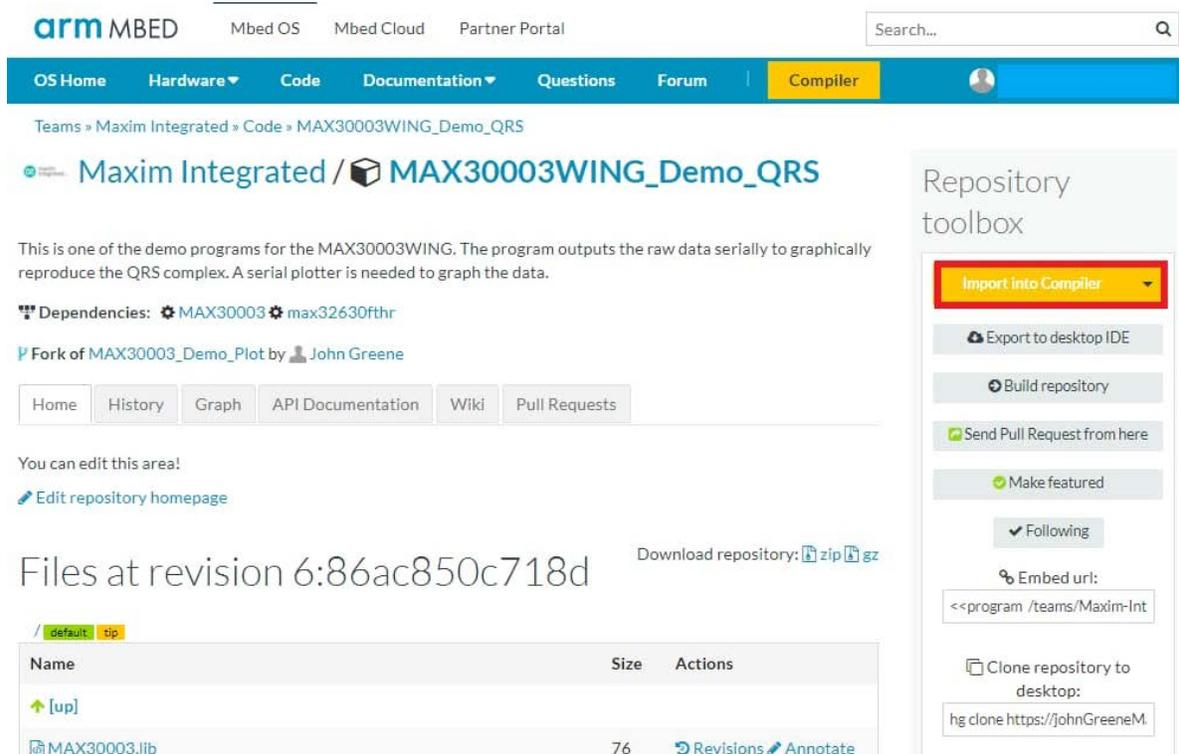

Figure 4. Highlights the *Import into Compiler* button with a red box on the *MAX30003WING\_Demo\_QRS* repository.
5. **Figure 4** highlights the import button on the MAX30003WING\\_Demo\\_QRS repository page with a red box. Click the **Import to Compiler** button; this automatically opens the Mbed compiler in a new window. When this window opens, select **Import** to import the program.